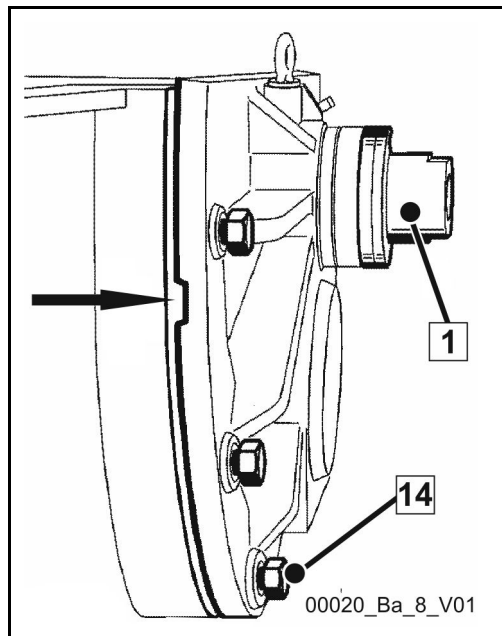

Fig. 174
- Loosen the adjusting nut (1) (**Fig. 174**) by two to three turns.
- Loosen the cover screws (14) evenly by approx. two to three turns to release the pressure spring in the cutting ring.
- Press off the cover of the housing using two assembly levers until it hits the loosened screws; there are press-off points (arrow) (**Fig. 174**) located on the top cover for this purpose.